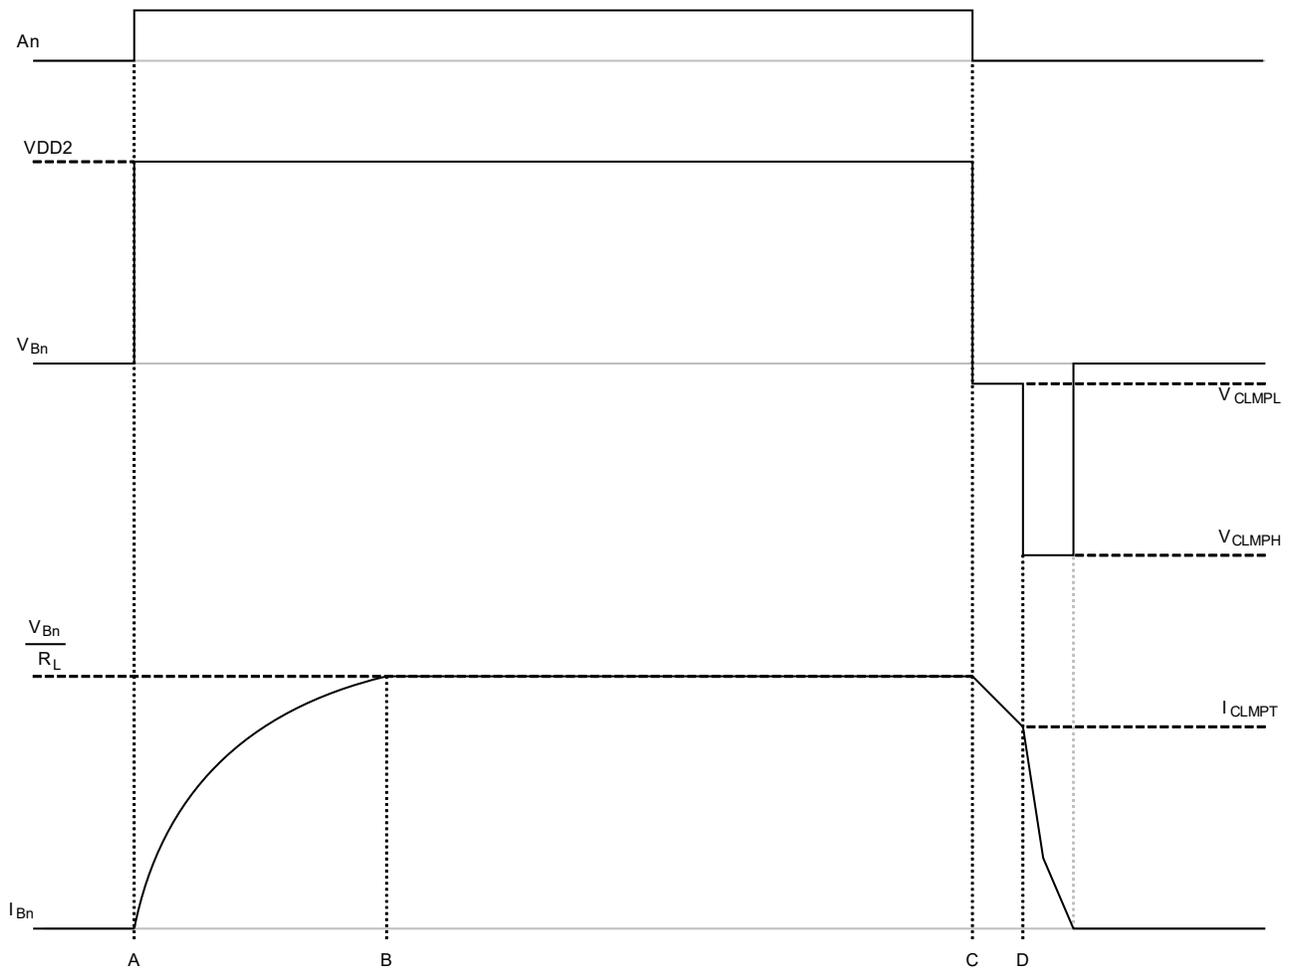

Figure 8. Demagnetization Protection Behavior
Figure 8 above illustrates the behavior of a high-side (sourcing) Si834x switch when driving a relay at the switch's typical ON State Load Current ($I_{O(ON)}$) and under normal operating conditions. It plots the digital input to the switch (A_n) as well as the output voltage (V_{Bn}) and output current (I_{Bn}) from the switch. It assumes a simplified model for the relay coil of a simple inductor (L) in series with a resistor (R_L). All plots are for a specific channel, with n specifying the channel number.
The figure above illustrates the behavior of a high-side (sourcing) Si834x switch when driving an inductor at the switches' typical ON State Load Current ($I_{O(ON)}$), but then experiencing two different over-temperature events (OT Event). The "Normal Operation" section is identical to Figure 8, "Demagnetization Protection Behavior," on page 13 and is included for reference. The figure plots the digital input to the switch (A_n), the temperature of any output channel ($T_{B(ANY)}$), as well as the output voltage (V_{Bn}) and output current (I_{Bn}) from the switch where n is a specific channel number. It also illustrates the Over-Temperature Constraint diagnostic register value for the channel (OT_CNSn) when the enable mask for auto-clearing of diagnostics ($ACLR_EN$) is set to true. This is the default diagnostic report clearing behavior.
The figure above illustrates the behavior of a high-side (sourcing) Si834x switch when driving an inductor at the switches’ typical ON State Load Current ($I_{O(ON)}$), but then experiences an overvoltage condition on the switch power supply (VDD2). The “Normal Operation” section is identical to Figure 8, “Demagnetization Protection Behavior,” on page 13 and is included for reference. The figure plots the digital input to the switch (A_n), the VDD2 supply voltage (VDD2), as well as the output voltage (V_{Bn}) and output current (I_{Bn}) from the switch where n is a specific channel number. It also illustrates the VDD2 Out of Specification register value (VDD2_OS) when the enable mask for auto-clearing of diagnostics (ACLR_EN) is set to true. This is the default diagnostic report clearing behavior.